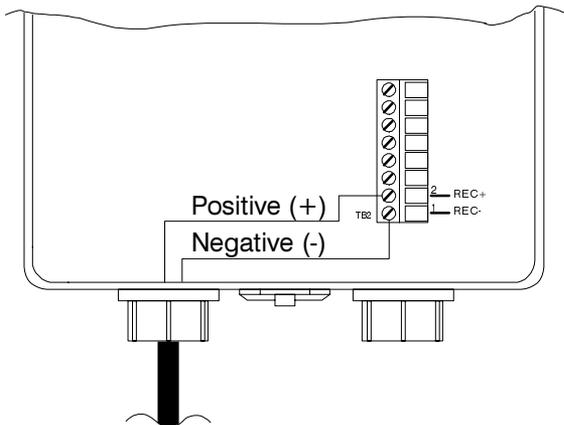

Figure 3-5 DC Power Wiring
3. Connect the power cord to terminals 3 and 4 of the sensor terminal strip (see Figure 3-5). Connect the positive (+) lead to **+12BA** (terminal 4) and the negative (-) lead to **BA-** (terminal 3).